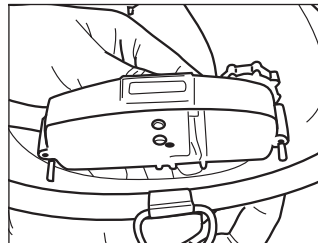

Figure 20
2. Align the battery unit with the screws (Figure 20).